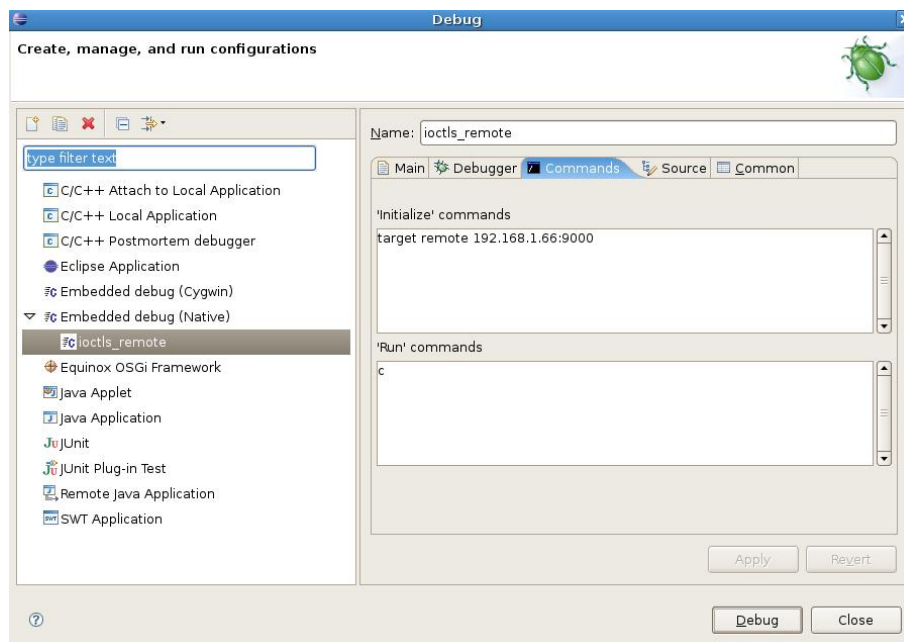

Figure 27: Eclipse debug: Commands tab
- choose `Commands` tab (see Figure 27)